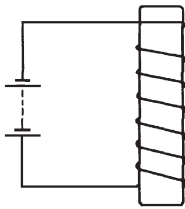

Figure 8.5
**Problem 1.** Figure 8.5 shows a coil of wire wound on an iron core connected to a battery. Sketch the magnetic field pattern associated with the current carrying coil and determine the polarity of the field.
The magnetic field associated with the solenoid in Figure 8.5 is similar to the field associated with a bar magnet and is as shown in Figure 8.6. The polarity of the field is determined either by the screw rule or by the grip rule. Thus the north pole is at the bottom and the south pole at the top.